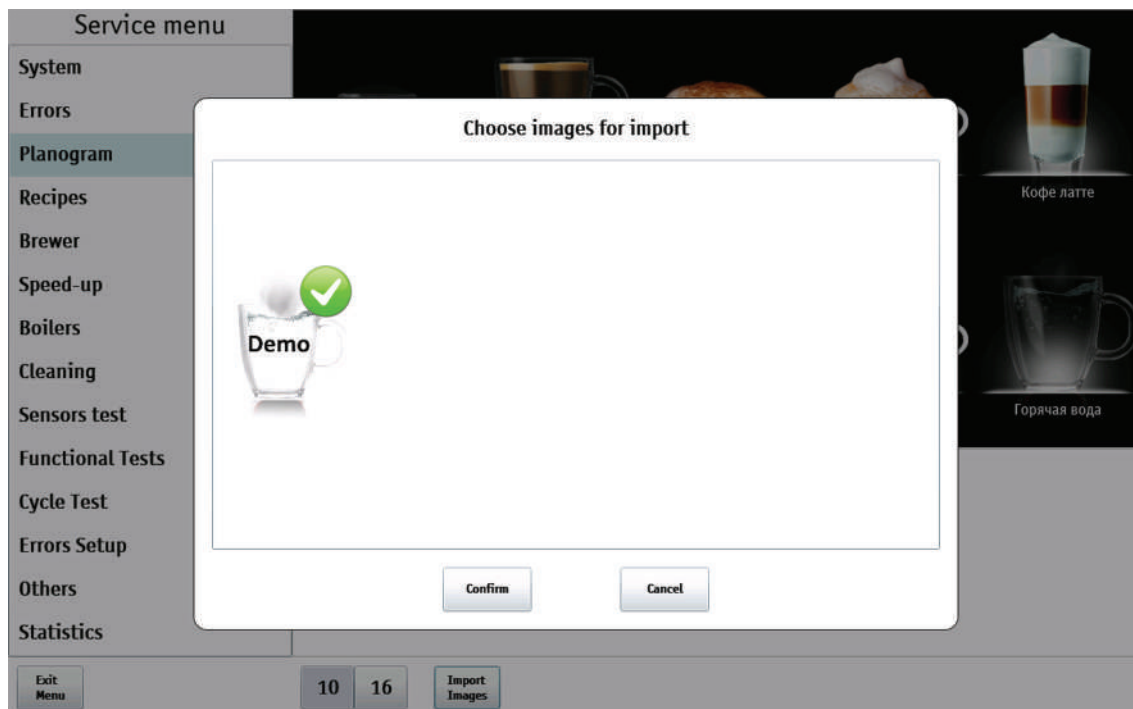

Fig.9.12.7 - Planogram (Import image)
4. Choose an image from the list (see fig. 9.12.7) and press the **Confirm** button.